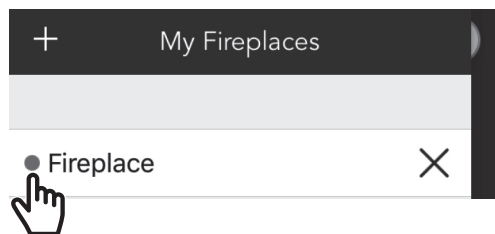

Fig. 6
6. Blue dot indicates that the replace is connected properly and ready to use (Fig. 6)